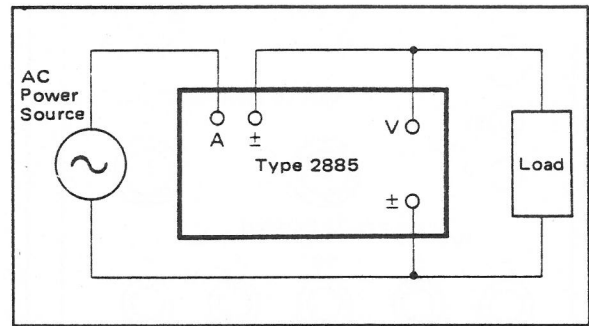

Figure 3-2.
Connect loads to the instrument voltage and current terminals as shown in Figure 3-2. Connect a DC voltage measurement instrument (for example, DVM) to the instrument DC output terminals.
- (1) Connect the power cord. Turn the power switch on. Confirm that the power pilot lamp lights. Warm up the instrument for about one hour.
- (2) With the input voltage and current zero, turn the zero adjustor using a screwdriver so that the output voltage is zero.
- (3) Apply voltage and current to the respective input terminals and check if the overvoltage or overcurrent alarm lamps light. If so, the input voltage or current exceeds the range rating and an error in power measurement may result. Therefore, change to a higher voltage or current range.
- (4) Measure the output voltage with a precision DC potentiometer or a digital voltmeter, etc. When a lead and power source are connected as shown in Figure 3-2, the DC output voltage polarity at the output terminals is as marked on the terminals.